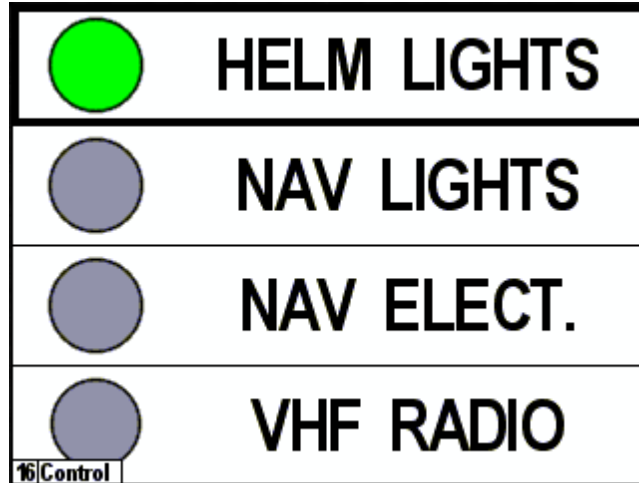

Figure 277 – Favorite Screen Showing Highlighted Switch/Breaker
1. Press the “Enter” key for approximately one second. This will place the display into “Control mode”, and one of the switches/breakers on the screen will be highlighted with a thick border, as shown in Figure 277 below.